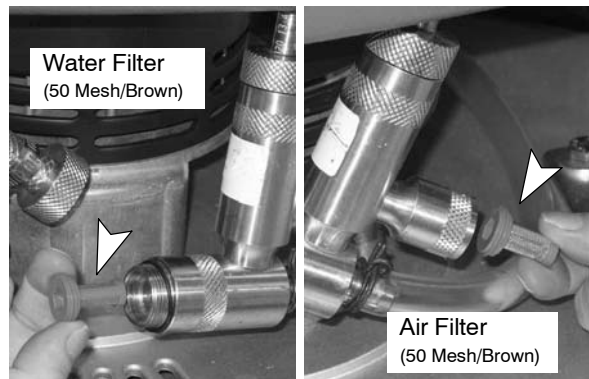

FIG. 57
2. Replace the water and air filter (Figure 57). An 8mm hex wrench required to install new water filter.